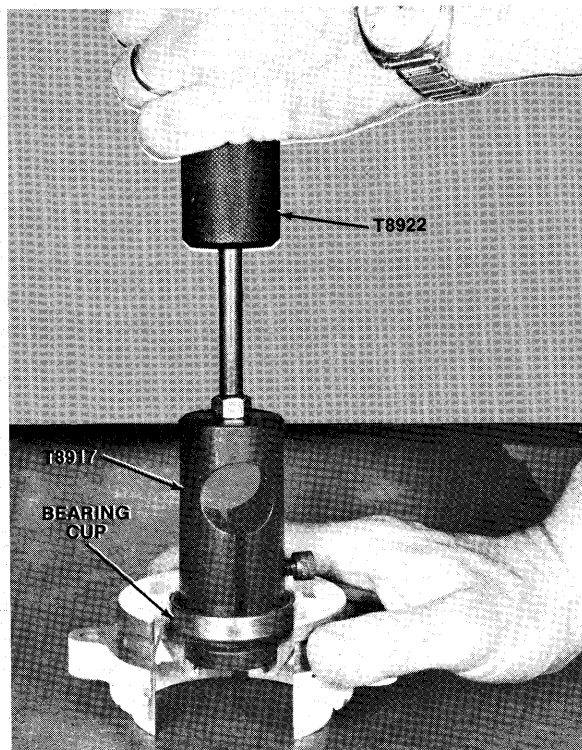

Figure 17—Removing Bearing Cup
- Remove bearing cup from bearing cage using cup remover (Special Tool T8917) and slide hammer (Special Tool T8922) as shown in figure 17 and remove shims.